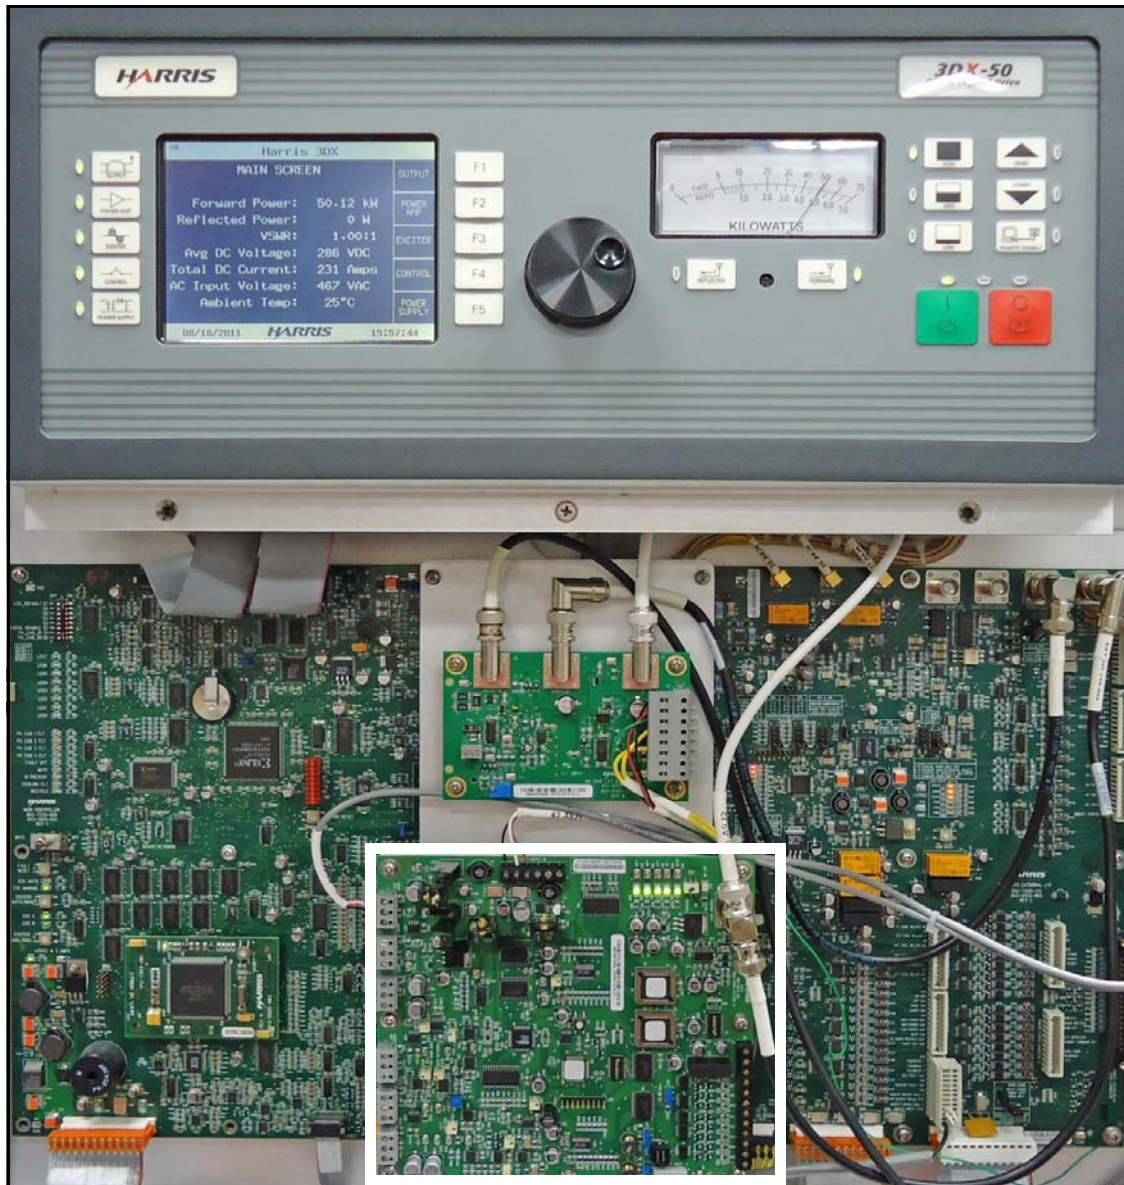
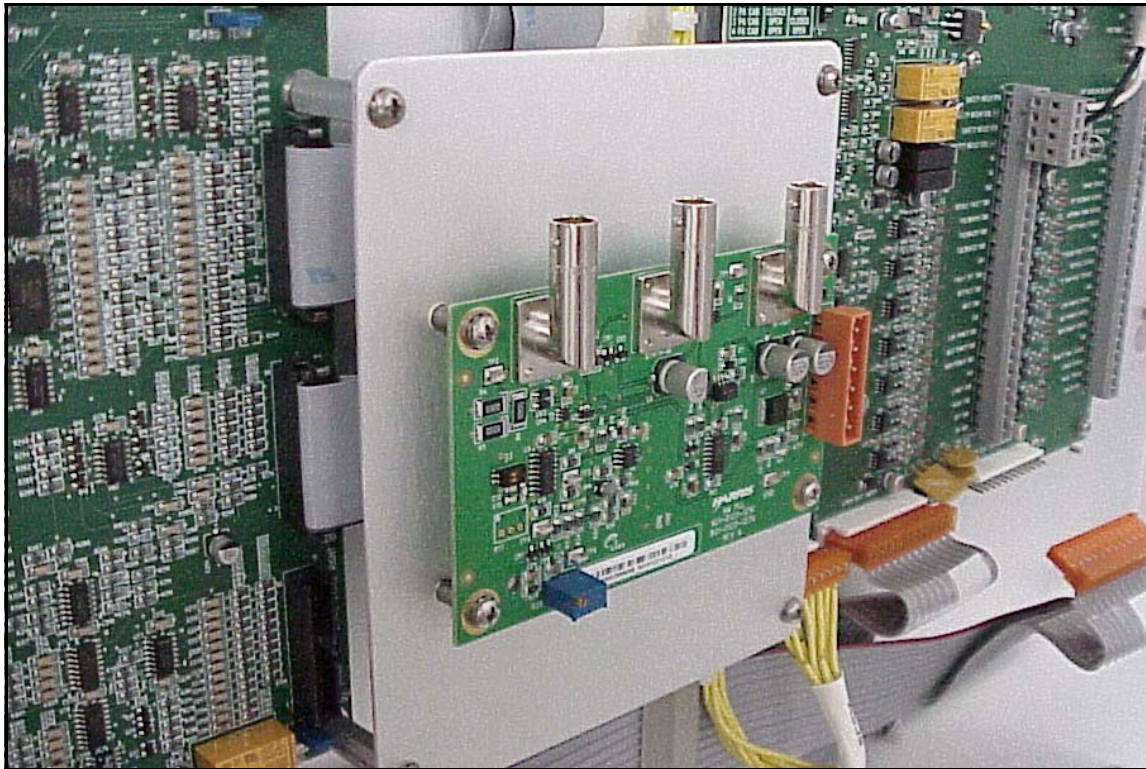

Figure 1-3
Figure 2-1
- f. Relocate the AM DAB EXT Switch w/PLL board and mounting plate pictured in Figure 2-1 on page 2-4, to the top 4 standoffs, as in Figure 1-3 on page 1-7.